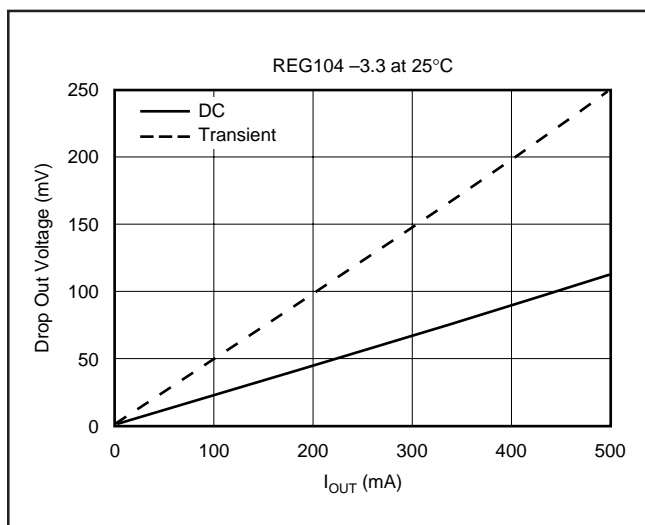

FIGURE 8. Transient and DC Dropout.
The REG104 uses an N-channel DMOS as the *pass* element. When the input voltage is within a few hundred millivolts of the output voltage, the DMOS device behaves like a resistor. Therefore, for low values of V_{IN} to V_{OUT} , the regulator's input-to-output resistance is the R_{dSON} of the DMOS pass element (typically 230m Ω). For static (DC) loads, the REG104 will typically maintain regulation down to V_{IN} to V_{OUT} voltage drop of 230mV at full rated output current. In Figure 8, the bottom line (DC dropout) shows the minimum V_{IN} to V_{OUT} voltage drop required to prevent dropout under DC load conditions.
For large step changes in load current, the REG104 requires a larger voltage drop across it to avoid degraded transient response. The boundary of this *transient dropout* region is shown as the top line in Figure 8. Values of V_{IN} to V_{OUT} voltage drop above this line insure normal transient response.